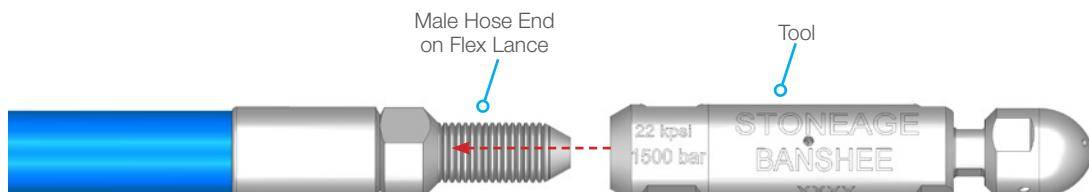

FIGURE 22
33. Attach the desired tool onto the Male Hose End on the Flex Lance. (Stoneage® BN15 Banshee® shown for reference). (**Figure 22**)